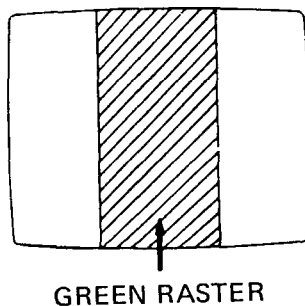

Figure 12. Color Purity Adjustment
7. Begin the following adjustment with the tabs on the round purity magnet rings set together. Initially, move the tabs on the round purity magnet rings to the side of the CRT neck. Then, slowly separate the two tabs while at the same time rotating them to adjust for a uniform green vertical band at the center of the CRT screen. Refer to Figure 12.